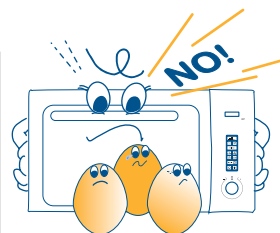

fig. 11
- 7) **Do not cook eggs in their shells** (fig. 11): the pressure which builds up on the inside would cause the egg to explode, even after cooking has finished. Do not heat up eggs which have already been cooked, unless they are scrambled.